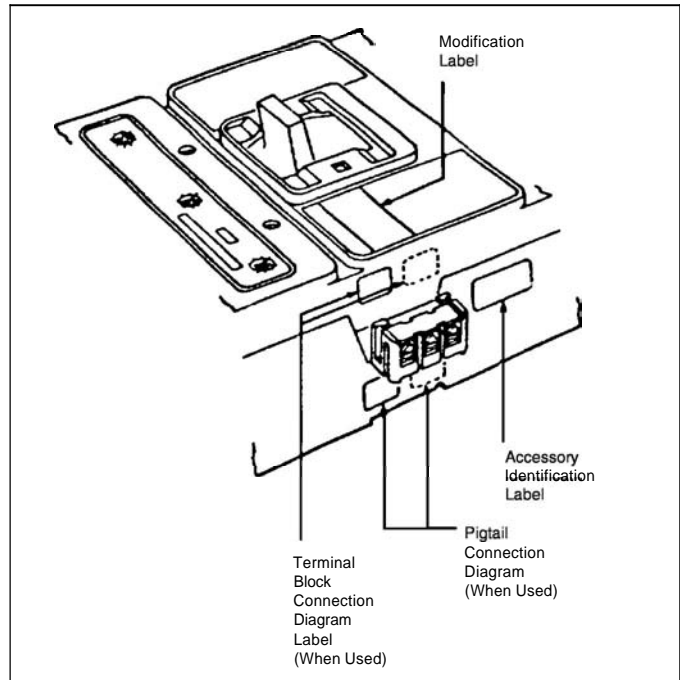

Figure 2-6 Preferred Mounting Locations for Accessory Nameplate Labels
- 2-12. Place accessory labels (supplied with kit) on circuit breaker (See Figure 2-6).